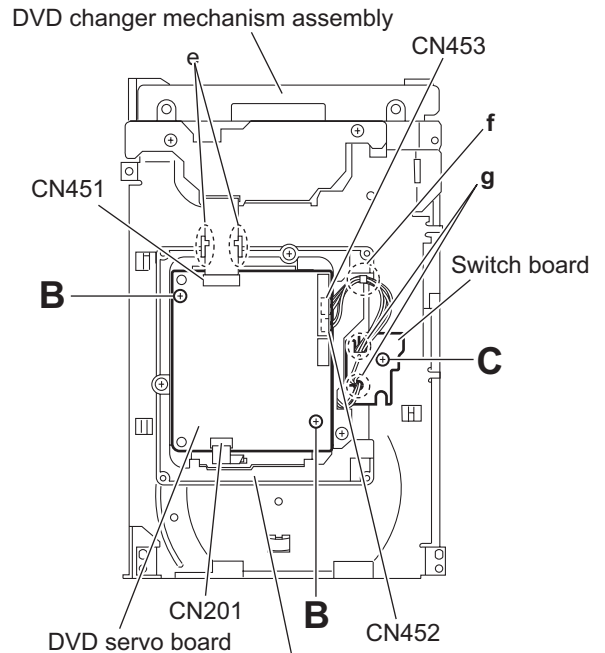

Fig.7
- (2) From the bottom side of the DVD changer mechanism assembly, disconnect the card wire from the connectors (CN201, CN451) on the DVD servo board. (See Fig.7.)
When connecting the card wire to the connector CN451, pass it through the sections **e** on the DVD traverse mechanism assembly. (See Fig.7.)
- (3) Disconnect the wires from the connectors (CN452, CN453) on the DVD servo board. (See Fig.7.)
- (4) Remove the two screws **B** attaching the DVD servo board. (See Fig.7.)
3.2.3 Removing the switch board (See Fig.7)